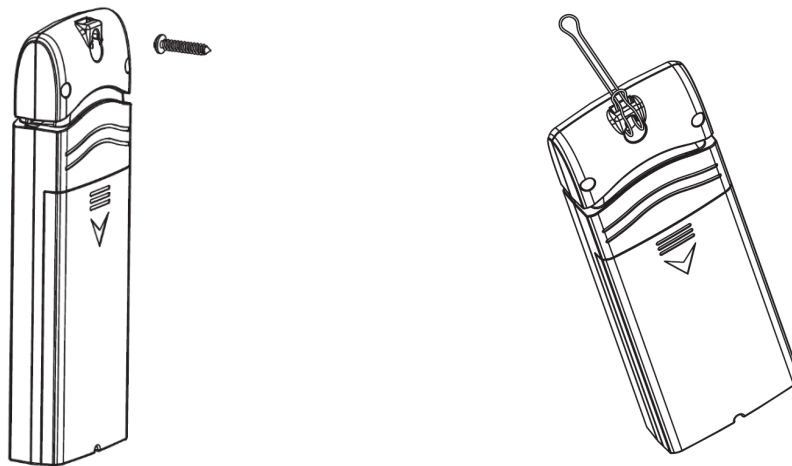

Figure 20
1. Use a screw or nail to affix the remote sensor to the wall, as shown in Figure 20
2. Hang the remote sensor up on string, as shown in Figure 20